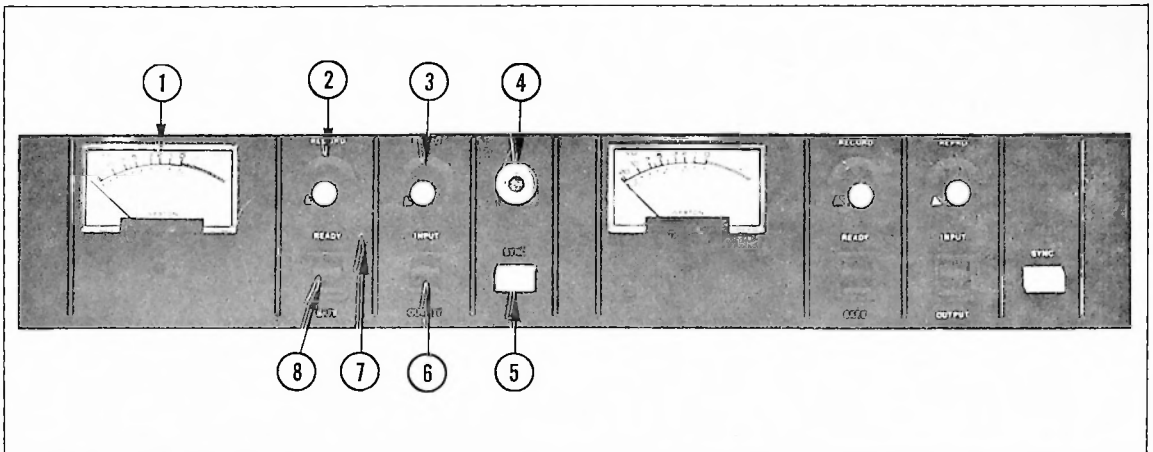
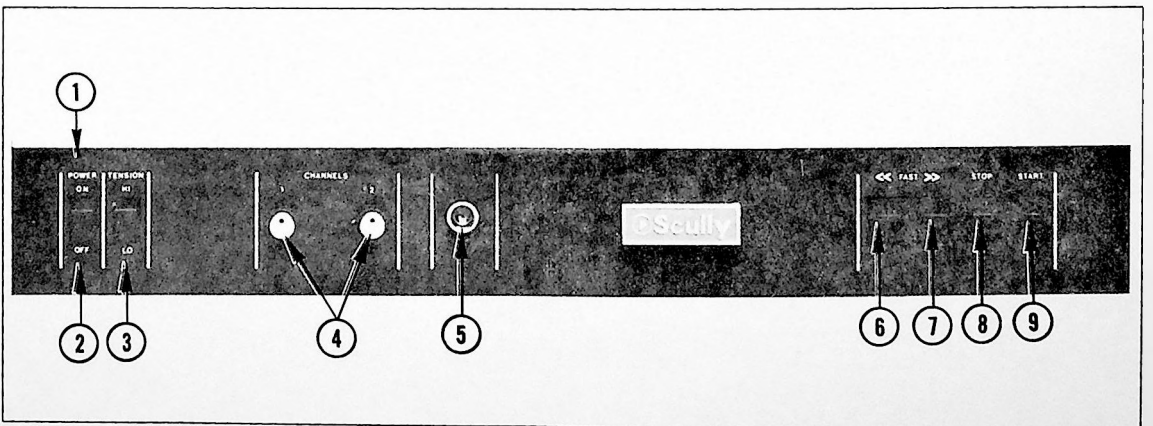

Figure 3-1. Recorder/Reproducer Electronics Controls and Indicators
Figure 3-3. Reproducer Transport Controls and Indicators
3.1 The transport function controls for the Scully 250 Series are located on the tape transport control panel, and its operating controls and vu meters for the record/playback electronic are located on the electronics assembly front panel. These controls and indicators are listed on Tables 3-1, 3-2 and shown on Figures 3-1, 3-2 respectively. All function controls for the Scully 255 Series are located on the transport control panel, and are listed on Table 3-3 and shown on Figure 3-3.
*Identical controls and indicators for channel 2, see Figure 3-1.